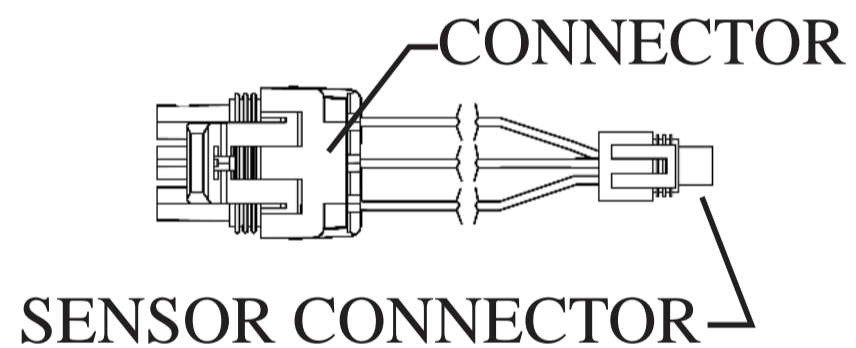

Figure 17
1) Locate the adapter cable included with the sensor. See Figure 17.